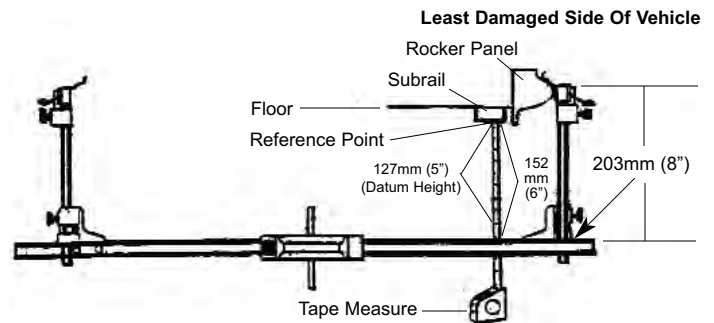

Figure 59
1. With the horizontal bar of a base gauge under a datum reference point, use a tape measure to adjust the top of the horizontal bar to the specified datum height. (See Figure 59.)
2. Read the tape measure and note the distance the top of the horizontal bar is from the reference point. As shown in Figure 59, the distance is 152mm (6 inches).